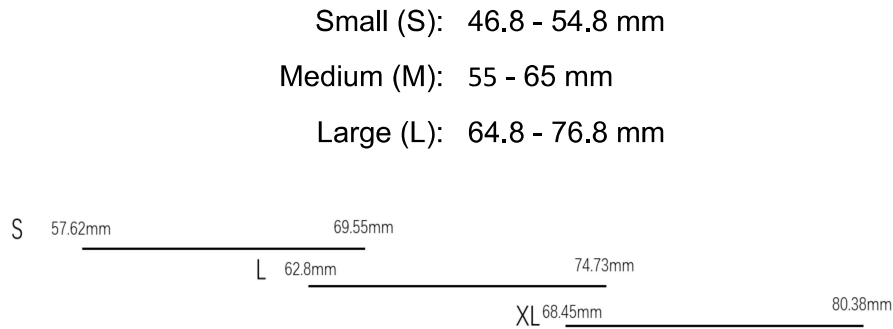

**Figure 4**
- (1) The MegaRing C30 is offered in three sizes, based on the circumference of the your index finger (the distance around your index finger). The circumference of the index finger corresponds to the size of the three (3) available ring sizes as shown **Figure 4**: